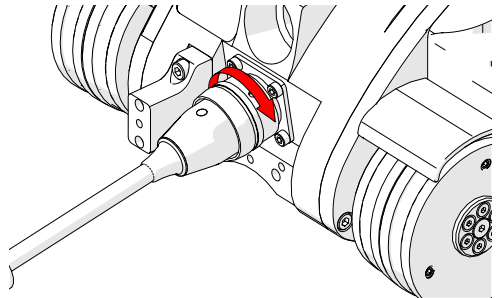

Fig. 92 - Align with crawler's umbilical mount
2. Twist the umbilical's sleeve clockwise, locking the umbilical in place (Fig. 92).